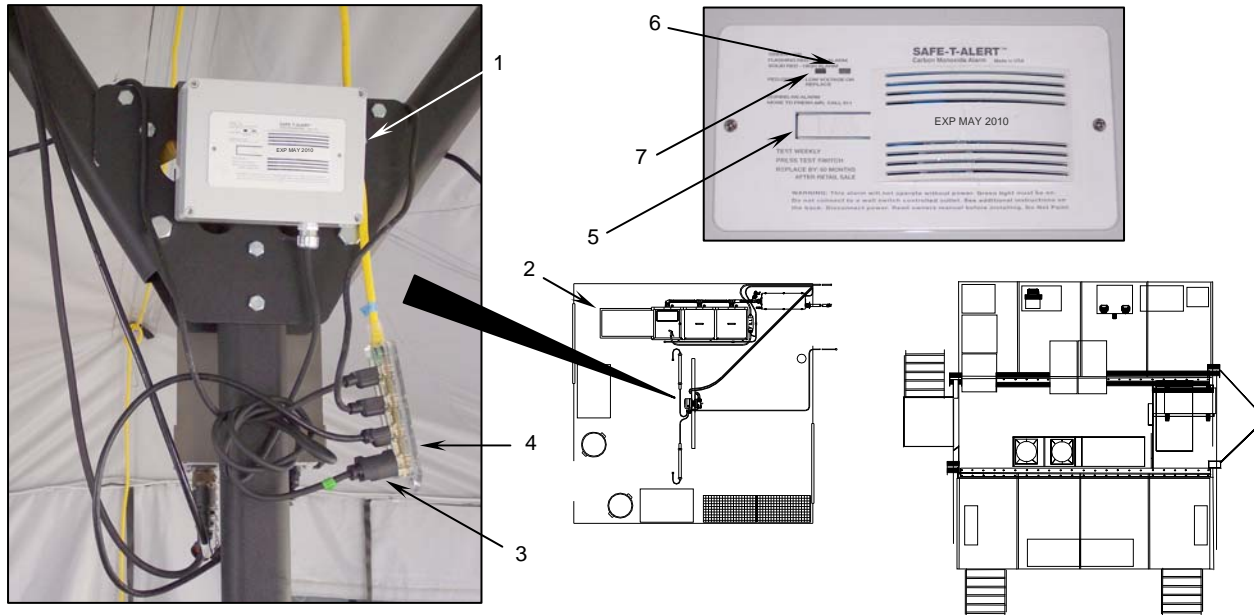

Figure 8. Carbon Monoxide Monitor Installation.
7. Install the carbon monoxide (CO) monitor as follows:
- a. Hang the CO monitor (**Figure 8, Item 1**) from the center pole of the tent on the same side of the pole as where the drain table (**Figure 8, Item 2**) will be set up.
- b. Plug the CO monitor power cord (**Figure 8, Item 3**) into an outlet on the end of the 100-ft extension cord (**Figure 8, Item 4**).
- c. Test the unit by pressing the TEST/RESET (**Figure 8, Item 5**) button. The indicator light (**Figure 8, Item 6**) should go off and the red light (**Figure 8, Item 7**) should change from green to red and the alarm horn (**Figure 8, Item 7**) should sound.